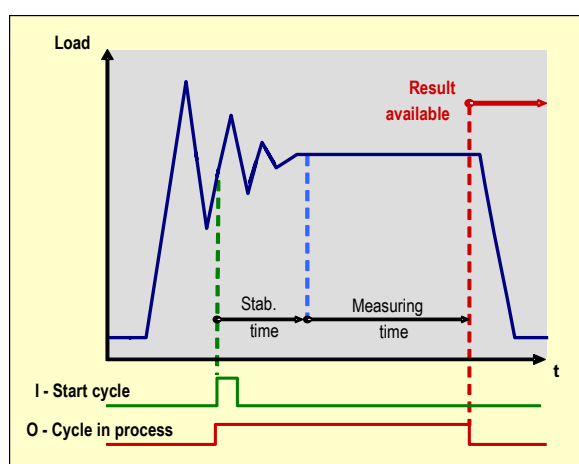

Fig. 6
- by an input assigned to 'start checkweigher cycle' (Fig. 6 & 7). Caution, only input 2 is operational if both inputs are assigned to the 'start checkweigher cycle' function.
- a time value (Fig.6).
Outputs may be assigned to the set-point function. Set-points are triggered by the measurement result (fig. 6). As long as checkweigher result is not available (???????) or (FF FF FF FF), it is seen like a value < to set point.